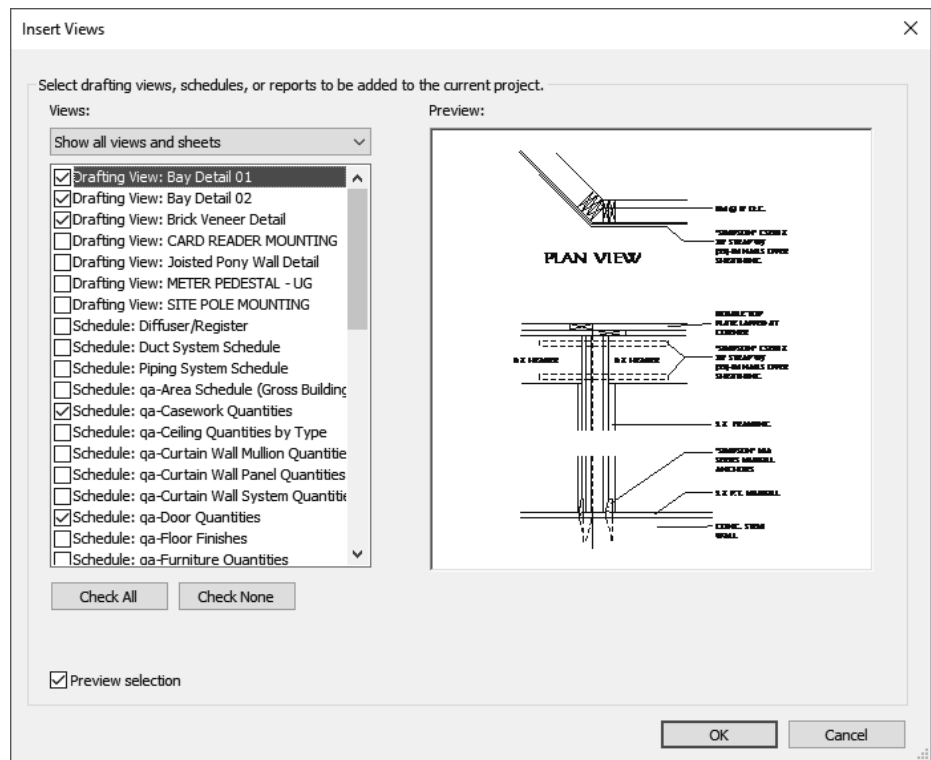

Figure 1–29
- Select one or two drafting views and one or two schedules from the list, as shown in Figure 1–29.